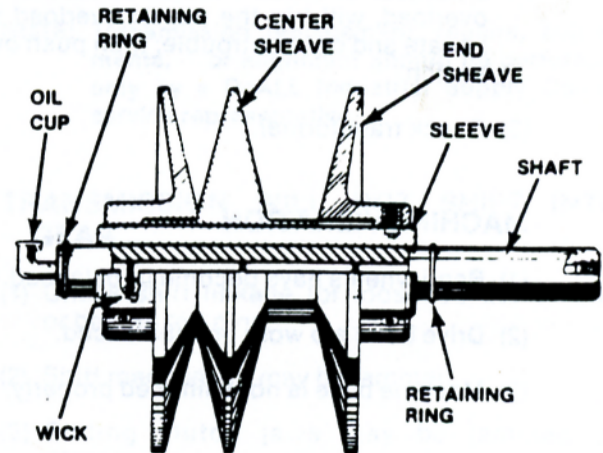

FIG. 20. VARIABLE SPEED PULLEY - CROSS-SECTION.
- (1) Remove, wash and clean the variable speed pulley unit with solvent every 6 months. Then: (a) Check to see that pulley's center sheave is free to shift sideways; (c) Check pulley for scoring which could damage the bolts.
- (2) Bearings are lubricated from an oil cup in shaft end. See Fig. 20.